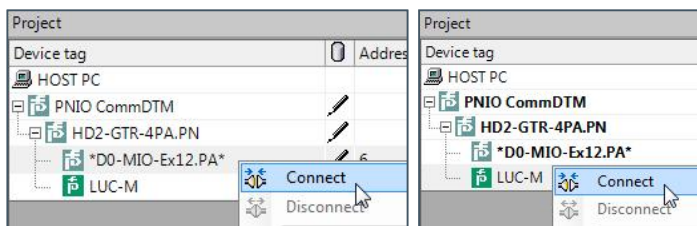

Figure 87: Connecting the PROFINET network participants with the PROFIBUS PA nodes
- 10) Right-click one of the PROFIBUS PA device, then click **Connect** to connect the network participants via this PROFIBUS PA node. Then do the same for the rest of the PROFIBUS PA nodes to add them individually to the network (see: Figure 87: Connecting the PROFINET network participants with the PROFIBUS PA nodes).